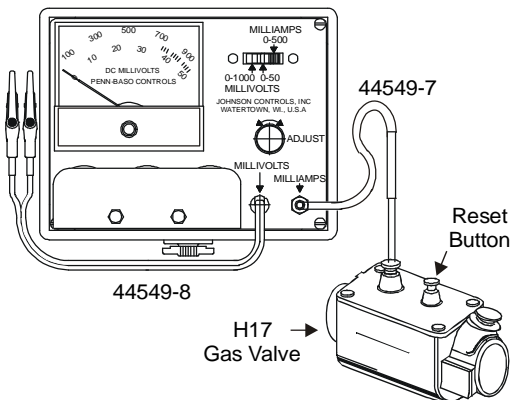

Figure 6: Dropout Testing Connection Diagram
3. Connect the test cable lead 44549-7 to the milliamperes jack on the test kit meter, connect the other end to the BASO control (see Figure 6).